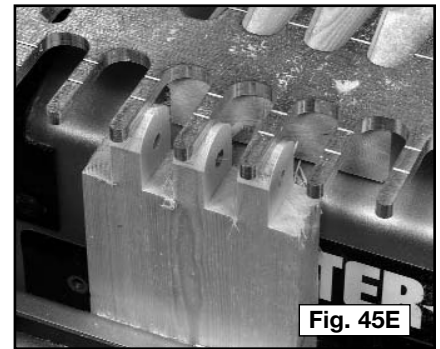

Fig. 45E
- Step 3** - Make an end-to-end box cut. (Make the depth-of-cut slightly deeper than the thickness of the boards (Fig. 45E).